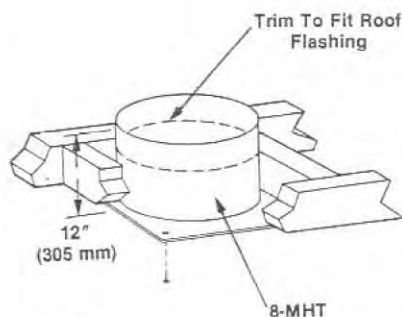
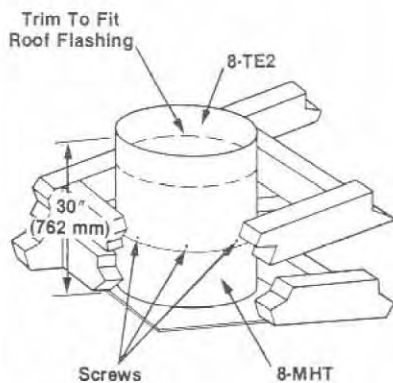

Figure 25
Figure 26
**Manufactured Housing:** Position firestop thimble, Model 8-MHFT, in ceiling opening, 14 1/2" x 14 1/2" (368 mm x 368 mm) square or 14 1/2" (368 mm) diameter hole, and fasten securely to ceiling. The firestop thimble must extend through the upper part of the roof opening. If higher attic space does not allow firestop thimble to extend through the roof opening, a thimble extension is required. Use Model 8-TE2 thimble extension manufactured by Superior Fireplace Company to extend firestop thimble to proper length. *Figure 25* illustrates typical firestop thimble installation. *Figure 26* shows an installation requiring the 8-TE2 thimble
extension. The thimble extension slides over the firestop thimble for a maximum 30" (762 mm) combined height. After determining proper height, fasten with four sheet metal screws where the two thimbles overlap (Figure 26). Screws are provided with the 8-TE2 thimble extension.